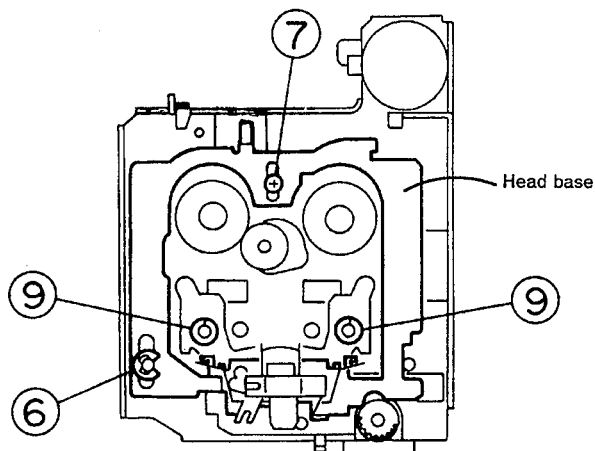
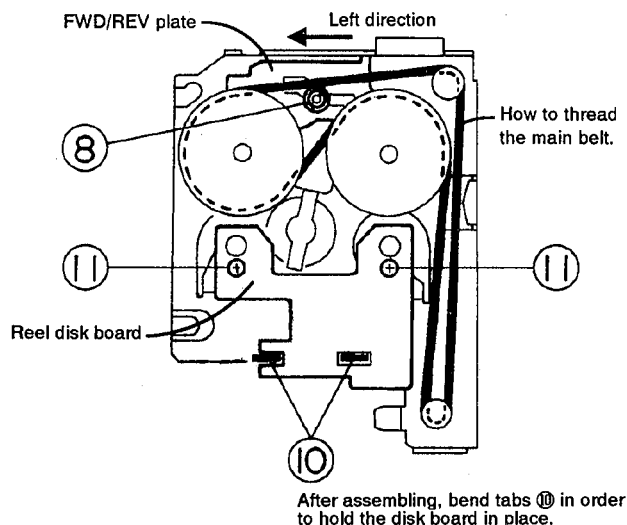
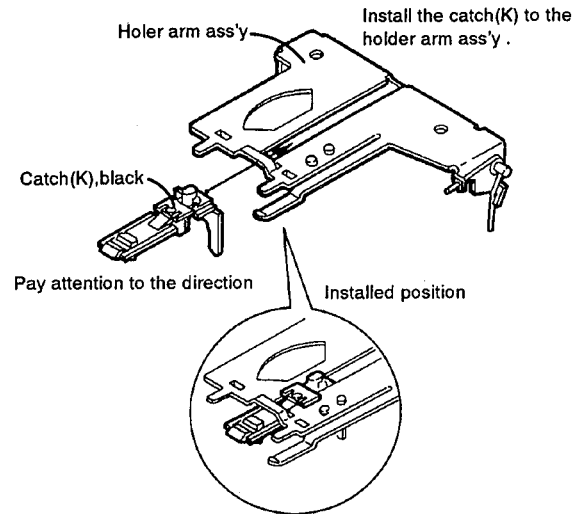

Fig. 4-18
Fig. 4-19
Fig. 4-20
■ Head base (See Figs. 4-18 and 4-19)
- 3) Remove the E washer ⑥ from the left shaft of the pinch roller.
- 4) Remove screw ⑦ for the head base.
- 5) Turn the head base upside down, then remove the C washer ⑧ securing the collar which secures the FWD/REV plate (the collar can also be removed.) (At this time, if the main belt is removed, operation will be made easier.)
■ Flywheel ass'y (See Figs. 4-18 and 4-19)
- 3) Remove two C washers ⑨ attached to the capstan shaft (remove both the right and left washers).
■ Reel disk board ass'y (See Fig. 4-19)
- 1) Straighten the bent tabs ⑩ holding the reel disk board.
- 2) Remove two screws ⑪ fixing the reel disk board.
■ How to assemble the cassette holder and sub chassis (See Figs. 4-20 through 4-23)
step1. How to Install the cach (K)